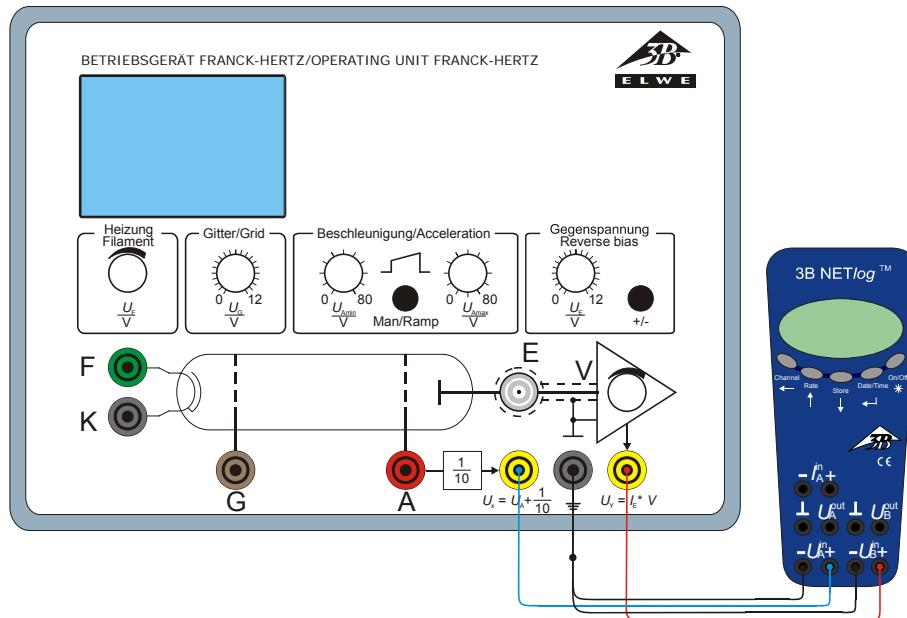

Fig. 6 Connection of 3B NETlogTM to the control unit for the Franck-Hertz experiment
- Connect the 3B NETlog™ unit to the control unit for the Franck-Hertz experiment (see Fig. 6). Connect the U_x output of the control unit to input A of the 3B NETlog™ unit and output U_y to input B.